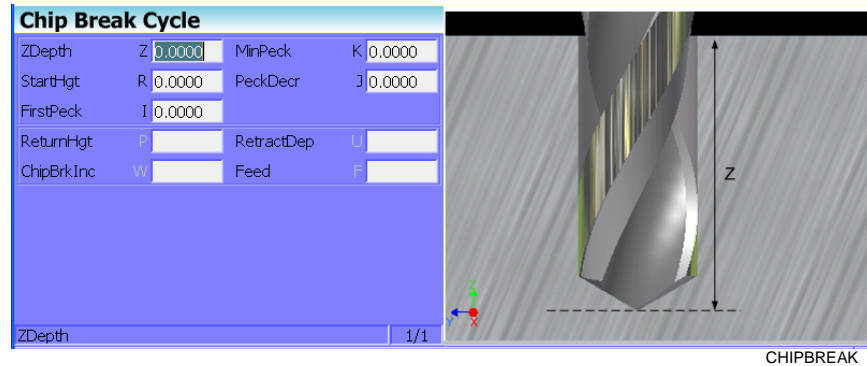

Figure 4-5, Chip Break Cycle Graphic Menu
2. Highlight **Chip Break** and press **ENTER** to display the Chip Break Cycle Graphic Menu. Refer to **Figure 4-5, Chip Break Cycle Graphic Menu**.